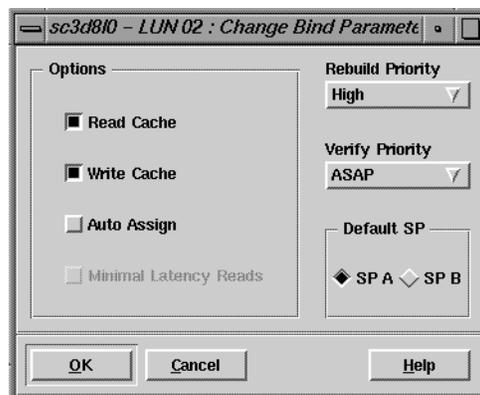

Figure 3-3 Change Bind Parameters Window
3. Choose Change Bind Parameters from the LUN menu. The Change Bind Parameters window for the selected LUN opens; Figure 3-3 shows an example.